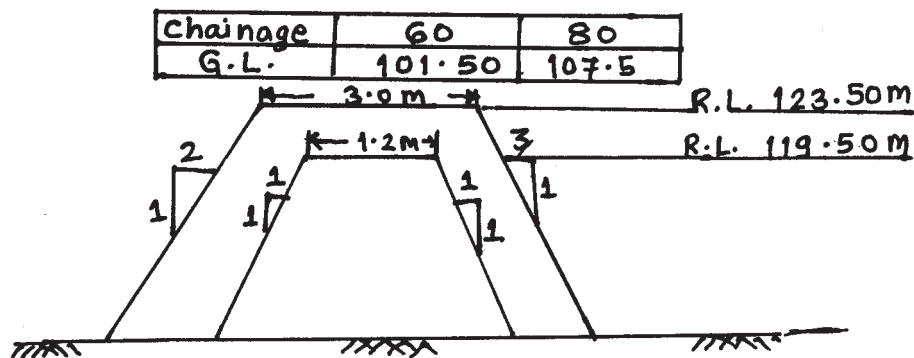

Fig. No. 4
- b) Work out the quantity of earthwork in hearing and casing for earthen dam given in Fig. no. 4 using following data.